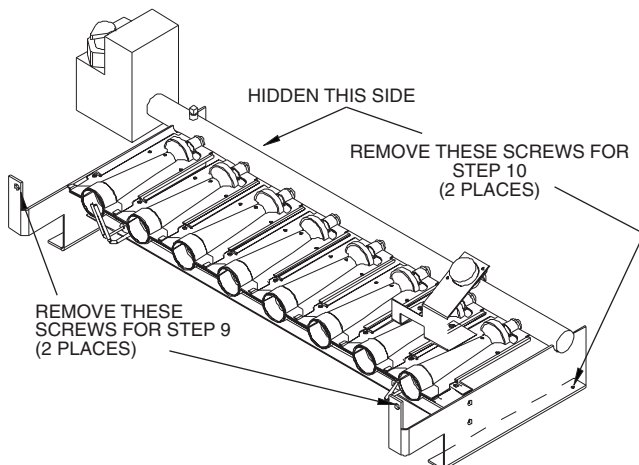

Fig. 2 — Removal of Burner Assembly
9. Remove the 2 screws securing the burner assembly to the heater. See Fig. 2. Save screws for re-installation of burner assembly.
10. Remove the 2 screws securing the burner assembly to the basepan. Save screws for re-installation of burner assembly. See Fig. 2.